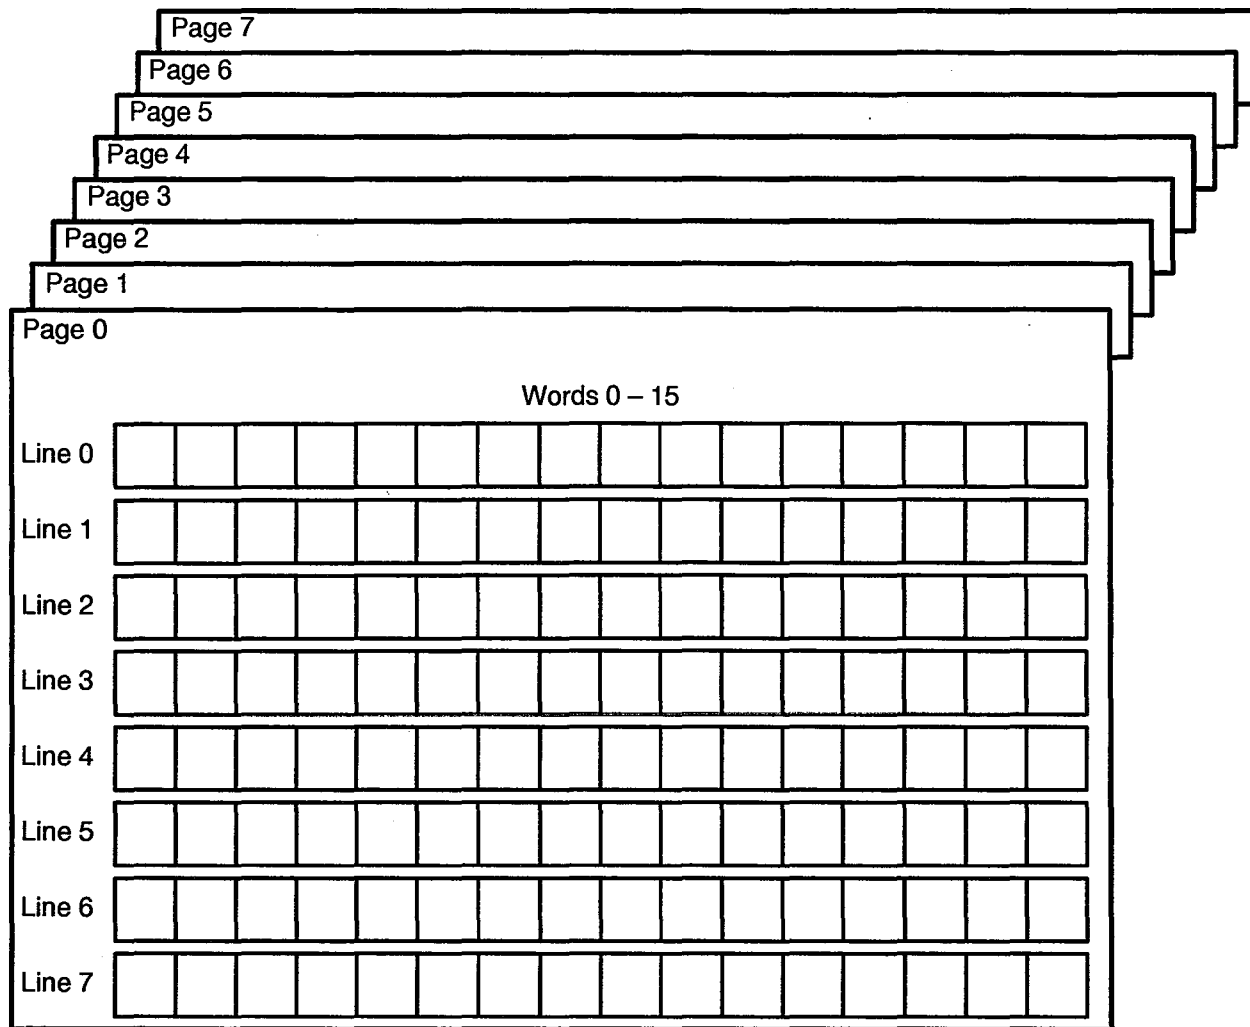

Figure 100. Cache Layout
- The cache is organized into 8 pages of data. Each page contains 8 lines of 16 words, thus providing 1,024 words of data in the cache. Figure 100 illustrates the logical layout of the cache.